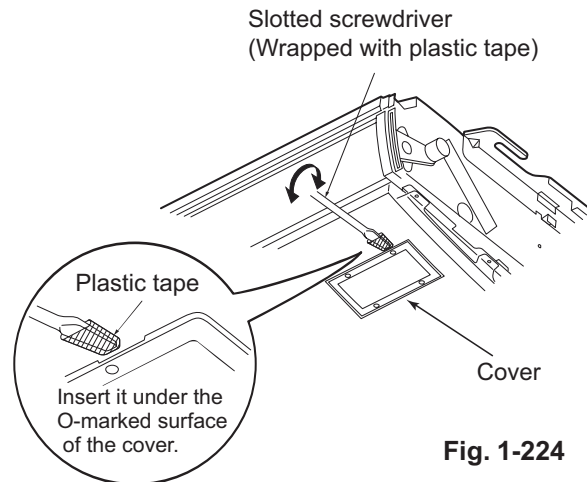

Fig. 1-224
- 2 Wrap the tip of a slotted screwdriver with plastic tape and then insert it under the O-marked surface of the cover, wiggling the cover free. (Fig. 1-224) (Be careful not to scratch the panel.)